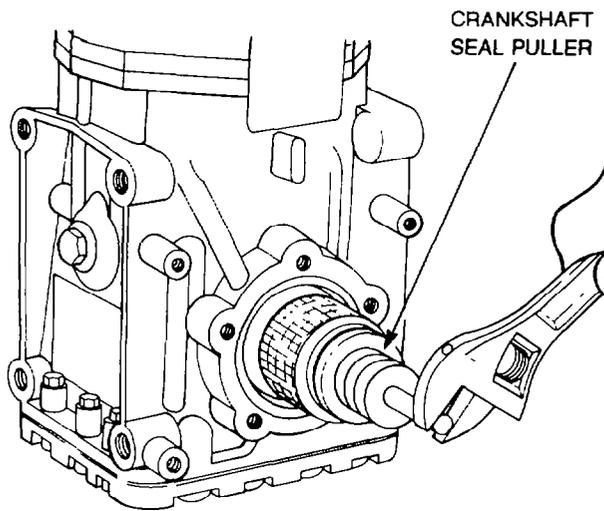

Figure 334 — Crankshaft Seal — Removal
- d. Using special tool SE-2392-1 remove the crankshaft seal from the crankcase (see Fig. 334).